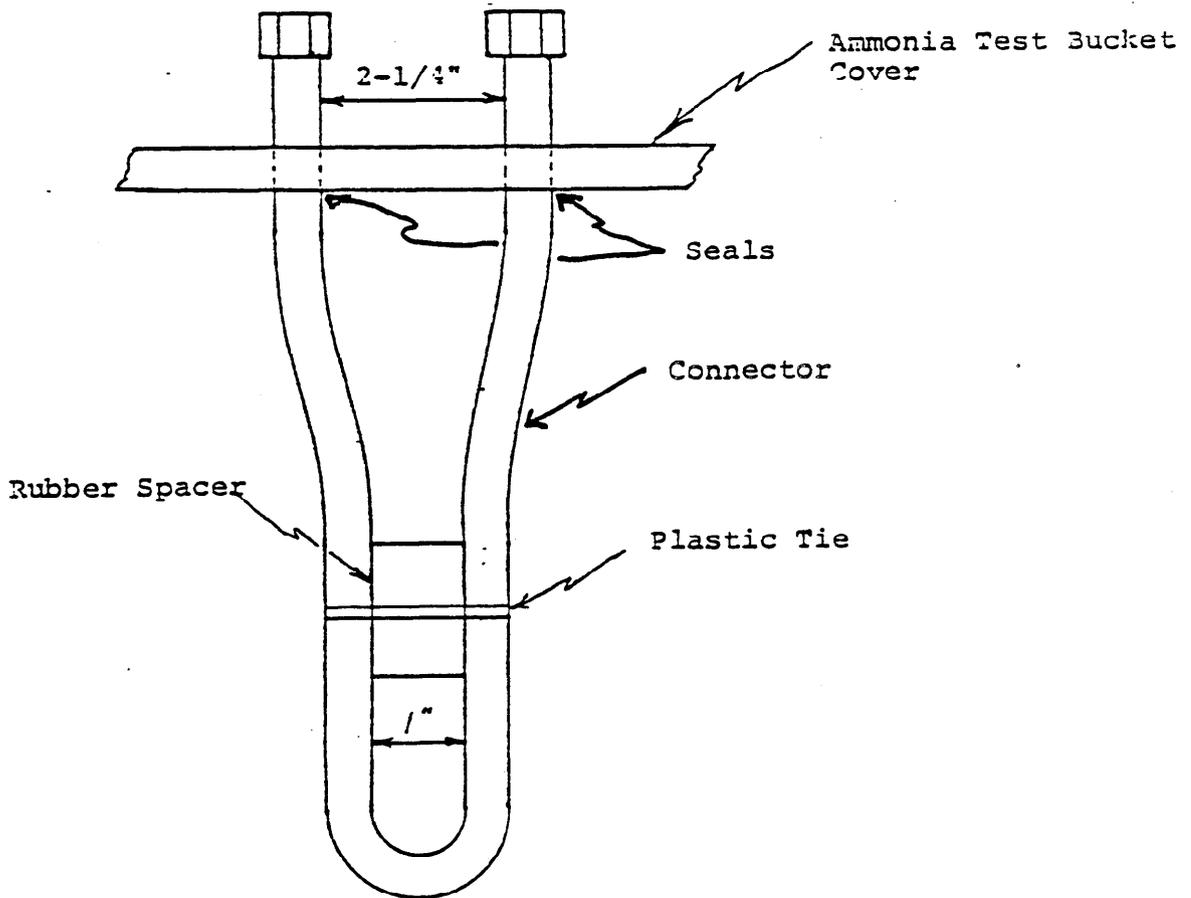

Figure 11 - Connector Mounted on Cover of Ammonia Test Bucket
*NOTE: The configuration used in this study differs somewhat from that shown. (See Figure 11).